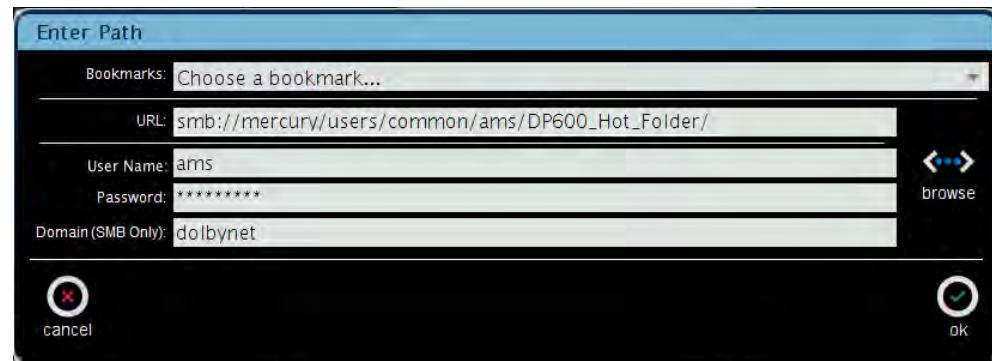

Figure A-3 Type URL in Enter Path Screen
1. In the **Enter Path** screen, type the desired URL in the **URL** field. If required, you can enter a **User Name**, **Password**, and **Domain (SMB Only)**, in the corresponding fields, as shown in Figure A-3.
Your path is displayed in the **Enter Path** screen, as shown in Figure A-3.